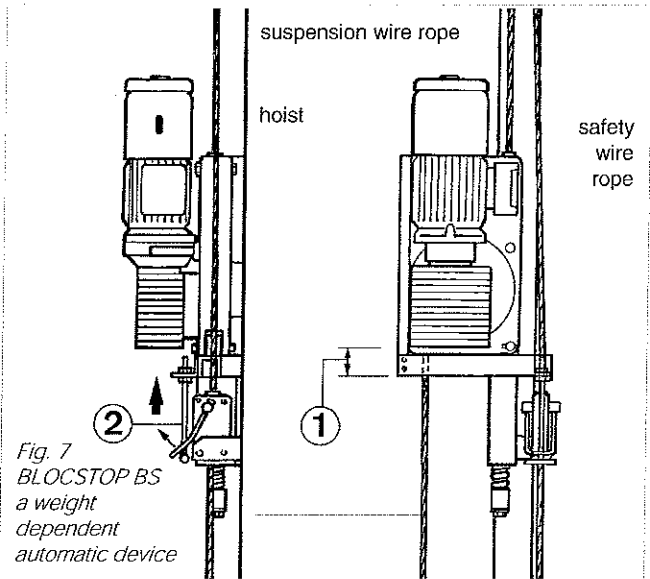

Fig. 7
The hoist is not rigidly fixed to the cradle. It initially slides upwards a short distance in a guiding device before lifting the load. The affect of this movement (1) is to raise the release lever (2) of the rigidly fixed BLOCSTOP (Fig. 7).